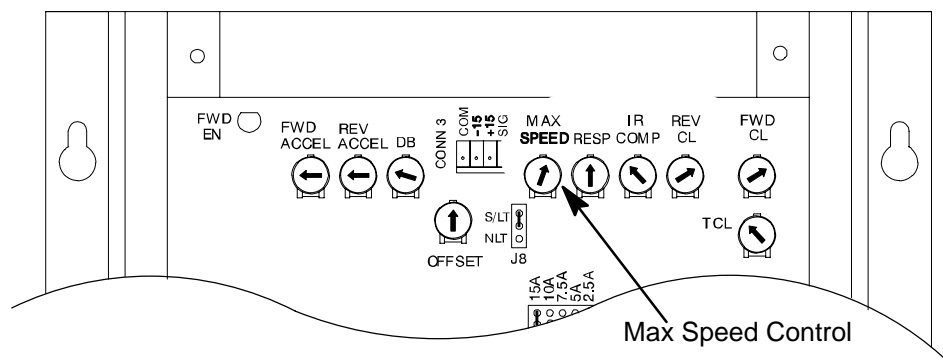

Fig. 6 Control Board Max Speed Control Location
- b. Release the Dispense pushbutton and adjust Speed Pot #1 to 100% (999).
6. View the motor speed on the Tach Display (TD321) and adjust the max speed to 1800 RPM with the Max Speed pot on the BC200 Motor Control board. Release the Dispense PB when completed. See fig. 6, Control Board Max Speed Control Location.